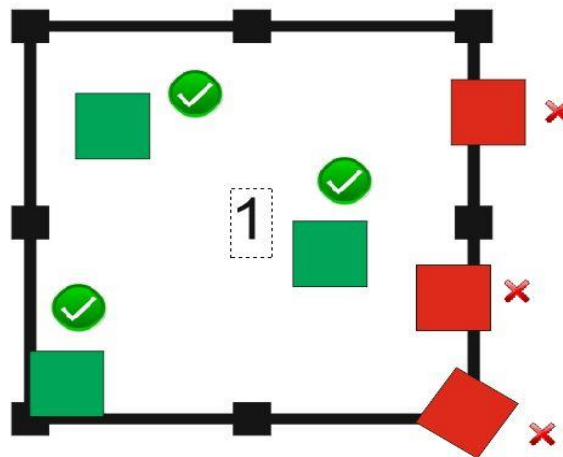

Figure 7: Placing the Packages in a Deposition Zone
- All blocks should be placed inside the appropriate deposition zone/s. As shown in Figure 7, blocks which protrude beyond the borders of the deposition zones are not considered as deposited.